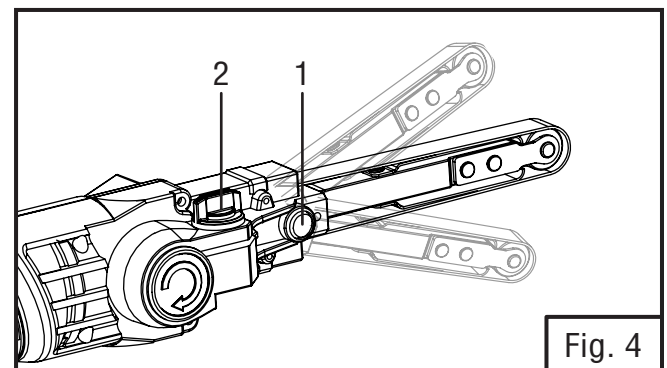

Fig. 4
3. Press the belt tensioning lever (Fig. 4 - 1) to tension the sanding belt.
## ADJUSTING THE ARM ANGLE (FIG. 4)
1. Loosen the angle locking screw (Fig. 4 - 2) by turning it counterclockwise.